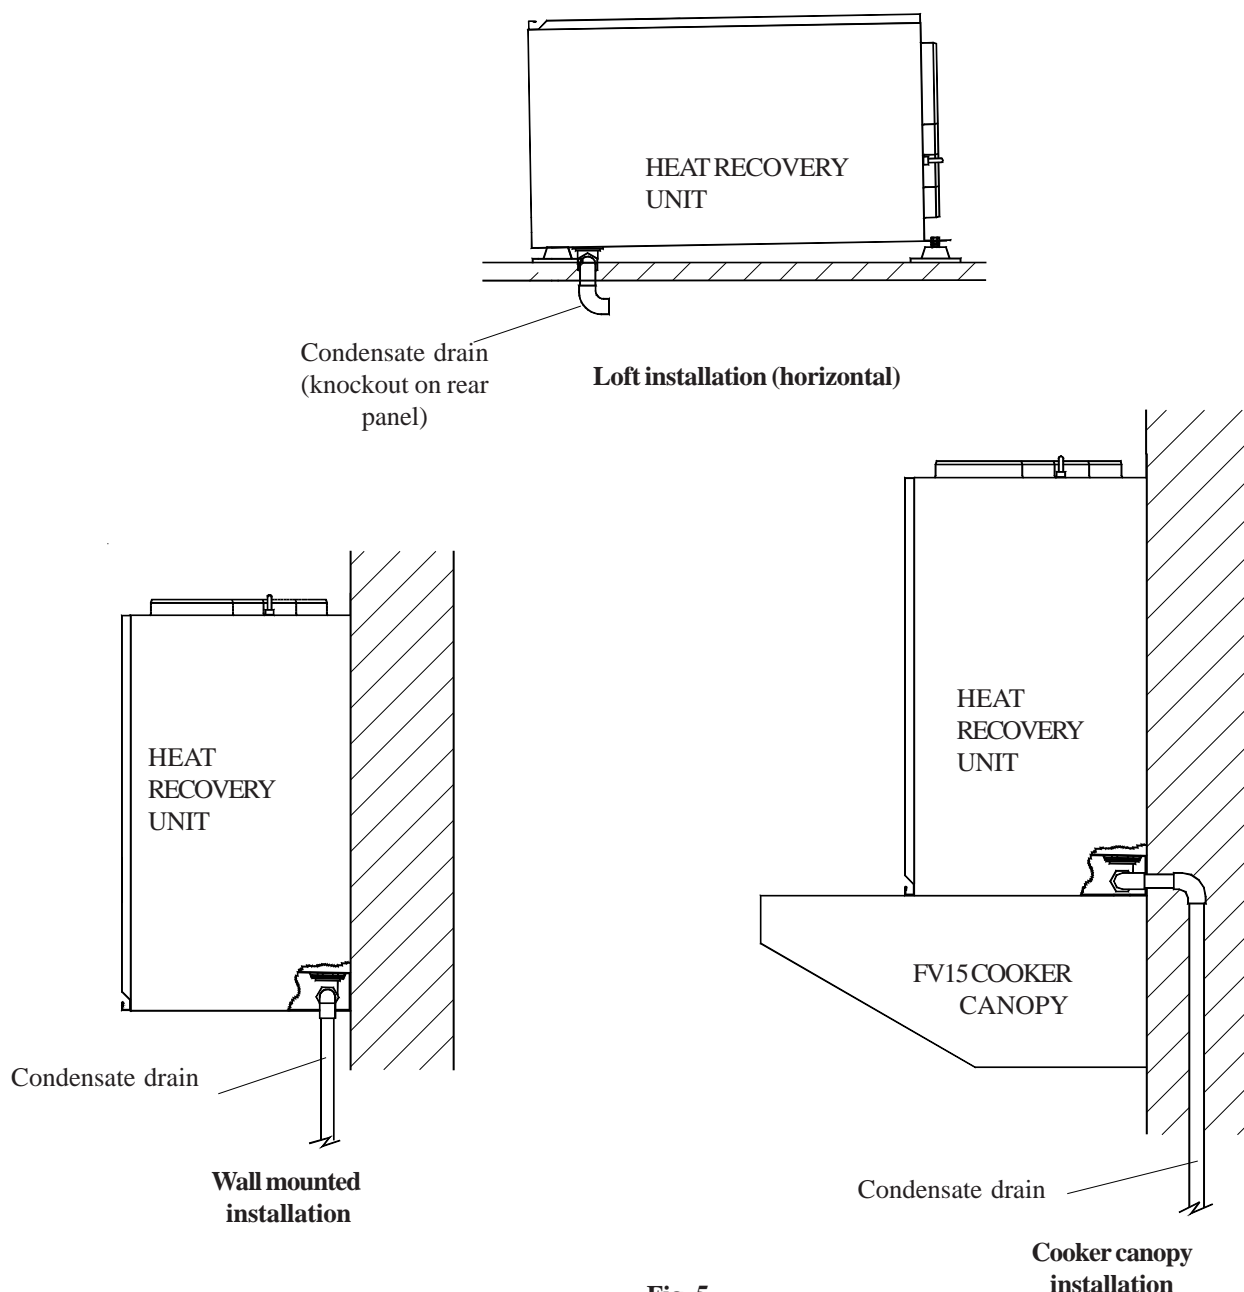

Fig. 5
2.4.2 When the unit is installed in the loft or a heated area, it may only be positioned on its back (as shown in Fig. 5).
- 2.8.2 Referring to Fig. 5, determine the method to be used and make the condensate drain pipe connection to the unit.